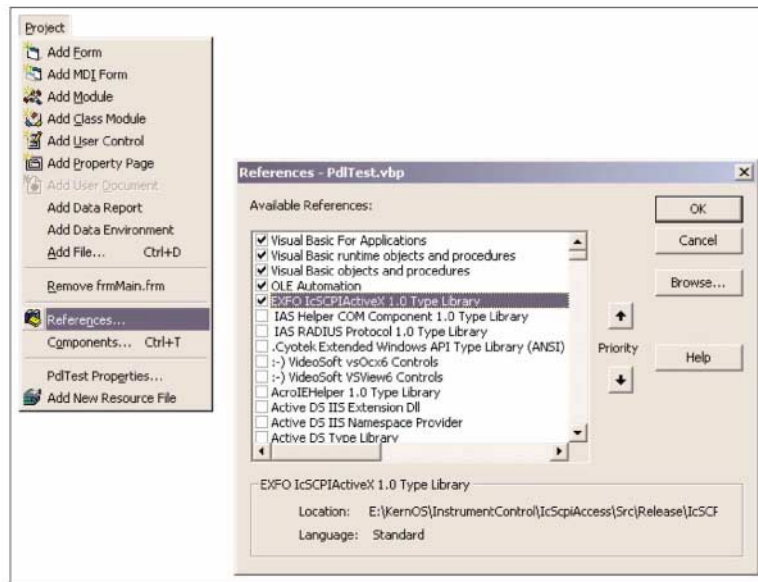

Figure 7. In the Visual Basic IDE, select the "References" item from the "Project" menu, then locate and check the "EXFO IcSCPIActiveX 1.0 Type Library" item
- A reference to the EXFO IcSCPIActiveX Type Library (see Figure 7)